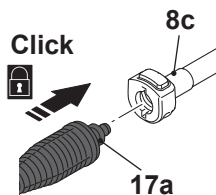

Fig. 6
- > Align the tongues (17a) of the nozzle with the grooves of the connection port of the extension lance (8c) (Fig. 6).